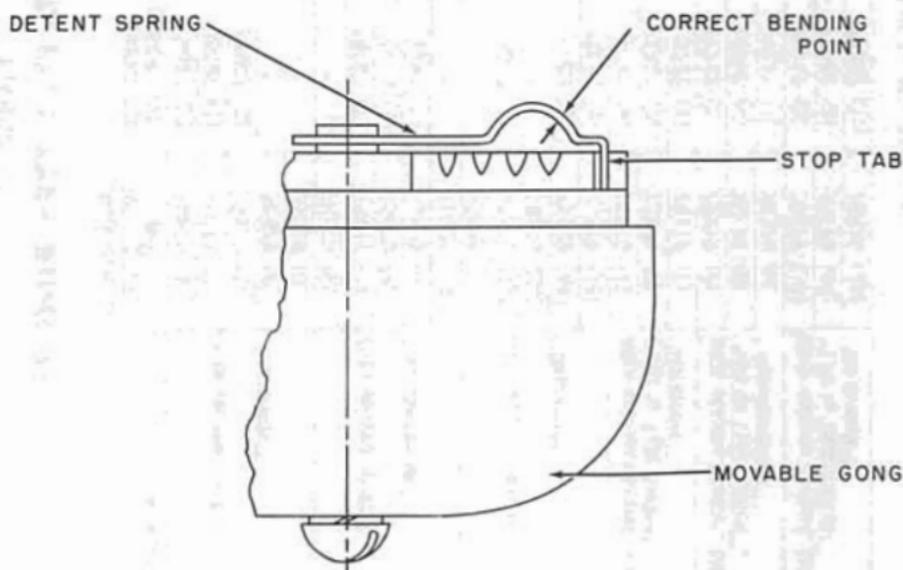

Figure 3
- e. Adjustment of Stop Tab—Fig. 3, Page 59.